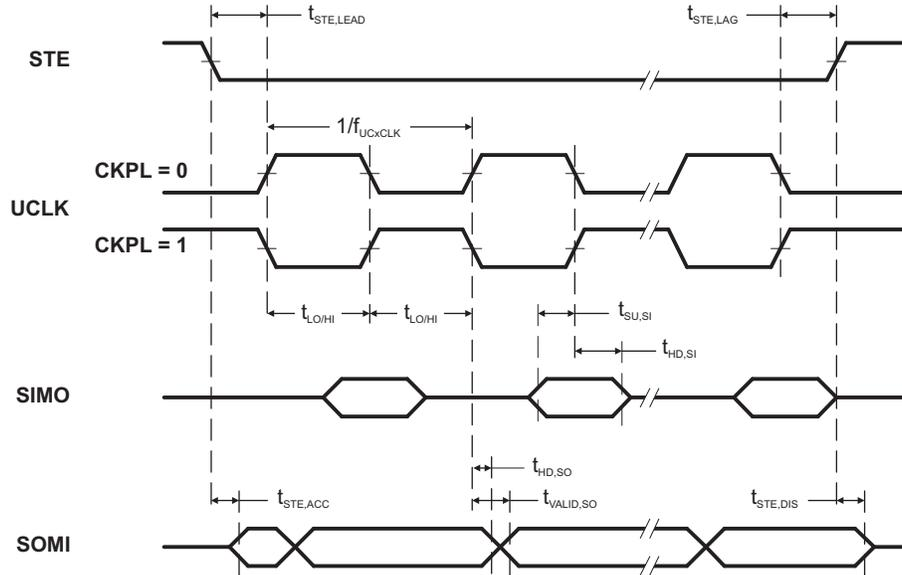
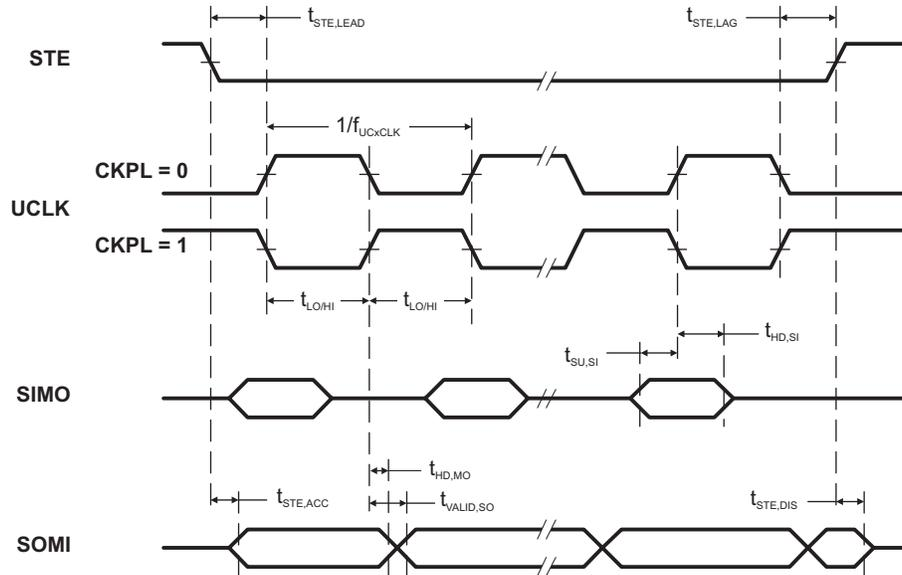

Figure 15. SPI Slave Mode, CKPH = 0
Figure 16. SPI Slave Mode, CKPH = 1
(see Note (1), Figure 15 and Figure 16)
(2) Specifies the time to drive the next valid data to the SOMI output after the output changing UCLK clock edge. See the timing diagrams in Figure 15 and Figure 16.
(3) Specifies how long data on the SOMI output is valid after the output changing UCLK clock edge. See the timing diagrams in Figure 15 and Figure 16.